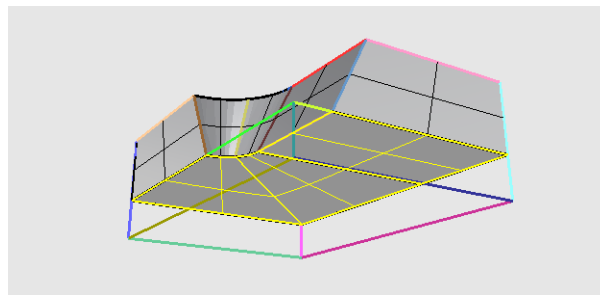

Figure 76: Extracting copies of the 3 lower surfaces of the solids
1. **Look below** the model and right-click on the **Extract Surface** icon. On the resulting command line, click on **Copy=No** to change it to **Copy=Yes**. Click on each of the lower surfaces of the 3 solids, then hit **<Enter>** to complete the surface extraction process (Figure 76).